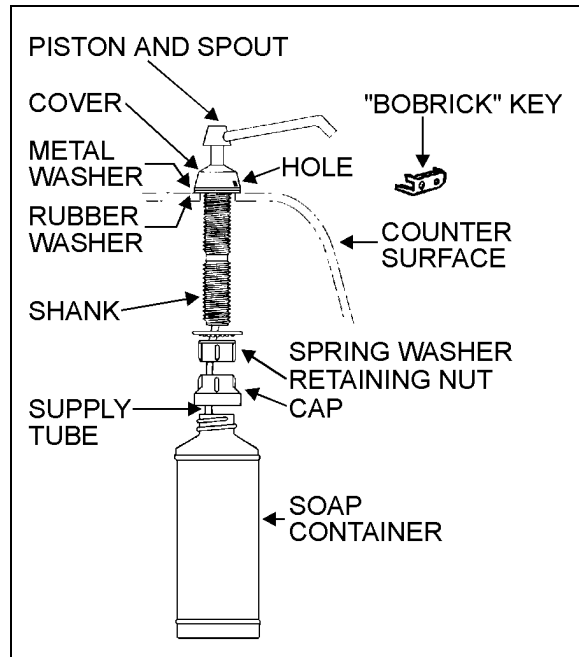

FIGURE 28: LIQUID SOAP DISPENSER
2. Insert projection at end of "BOBRICK" key into rectangular hole in cover (Figure 28). Push straight in. While holding "BOBRICK" key in, turn cover counterclockwise about 1/8 turn.